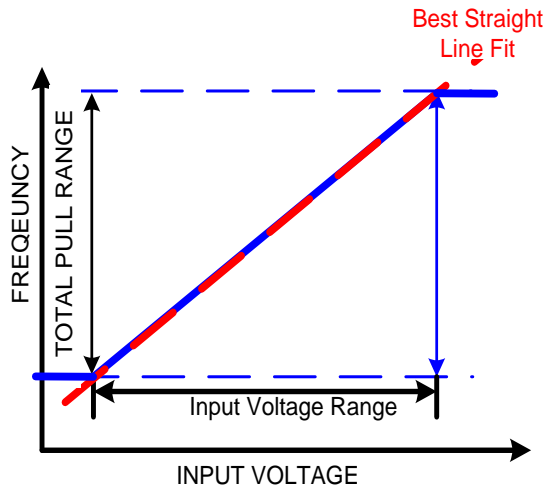

Figure 25. Typical KDS VCTC-MO Linearity
In any VCTC-MO, there will be some deviation of the frequency-voltage (FV) characteristic from an ideal straight line. Linearity is the ratio of this maximum deviation to the total pull range, expressed as a percentage. Figure 25 below shows the typical pull linearity of a KDS VCTC-MO. The linearity is excellent (1% maximum) relative to most quartz offerings because the frequency pulling is achieved with a PLL rather than varactor diodes.